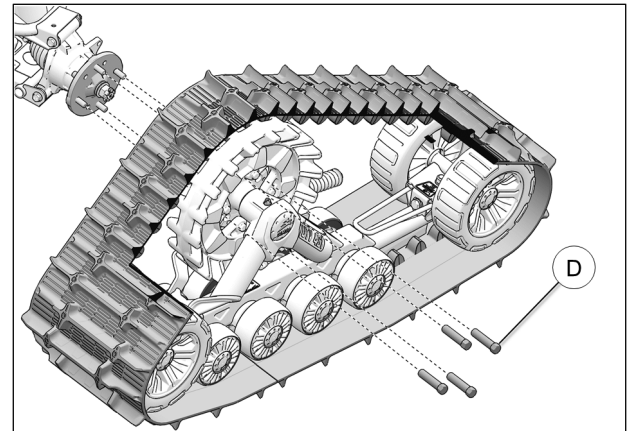

Fig. 9
10. Secure undercarriage to rear hub using the provided M12 lug nuts (**D**). See Fig. 9
6. Using the provided M12 lug nuts (D), secure undercarriages to the front wheel hubs. The procedure and precautions are the same as for rear units. Refer to Fig. 9